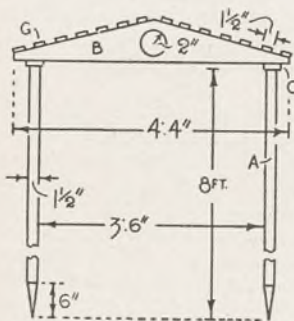
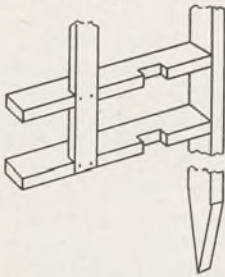
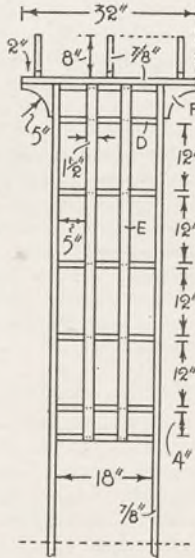

Fig. 1—Broken front view with dimensions
Fig. 3—Constructional details, showing how lathes are sunk into the post rail
Fig. 2—Side elevation
Having cut and planed the posts and rails to size, point the ends of the former as seen at Figs. 1 and 3. The rails (D) are then checked $1\frac{1}{2}$ ins. by $\frac{1}{2}$ in. for the side laths (E) as shown. These rails are simply nailed (with flat nails) between the post at the distances detailed in the elevation at Fig. 2, or you could check for them $\frac{1}{4}$ in. deep in the posts.
Nail the side laths (E) into the checks (with small flat nails) as at Fig. 3. As the arch is erected in three separate portions, proceed with the construction of the roof. If the size suggested is suitable, shape the rafter pieces (B) from $\frac{5}{8}$ in. or $\frac{7}{8}$ in. stuff as detailed at Fig. 1. The top bars (C) are drilled and countersunk for $1\frac{1}{2}$ in. from the ends. If desired, two rafters (one at each end) would suffice.